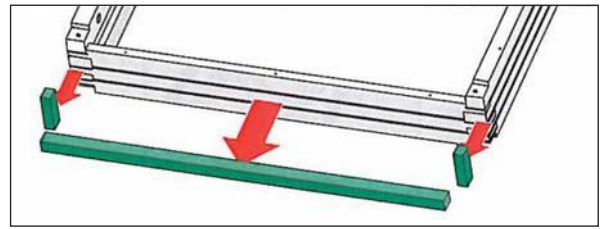

Fig 6
7) Remove the wooden protection slats from the frame (Fig 6).